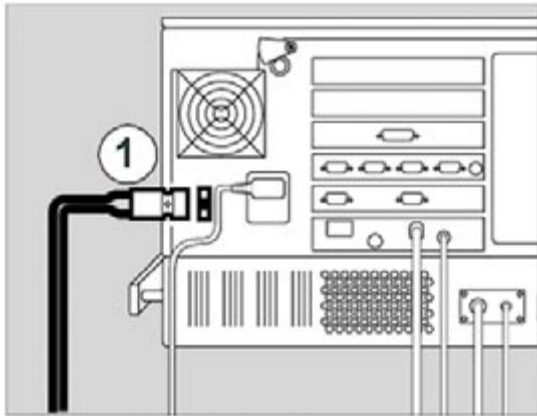

Fig. 1 Rear view of the power pack, external battery connector
- 1 Disconnect the external battery connector (Fig. 1/1) from the rear panel of the power pack.